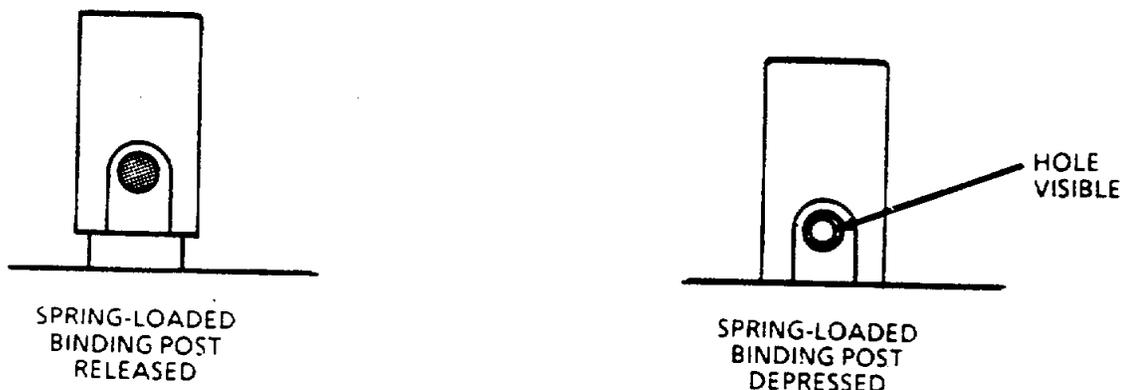

Figure 2-12. *Field Wire Connection*
- (1) Set modem up in accordance with TM 11-7025-263-13&P.
- (2) To make printer to modem configuration, refer to paragraph 2-7 c, (1-4).
- (3) Contact host computer operator via field phone to arrange for data transfer.
- (4) Disconnect field wire from field phone.
- (5) Connect field wire to spring-loaded binding posts on modem as follows See figure 2-12.